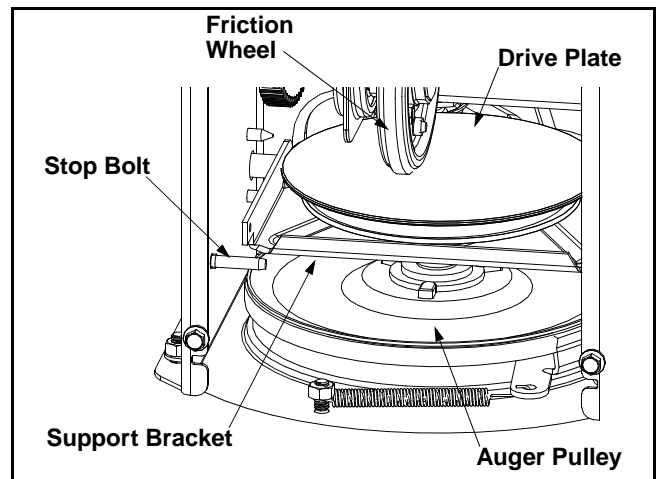

Figure 19
- Back out the stop bolt until the support bracket rests on the auger pulley. See Figure 19.
**NOTE:** The support bracket must rest on the stop bolt after the new belt has been assembled. See Figure 19.